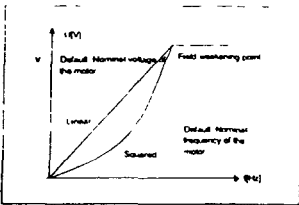

Figure 2.4-1 Linear and squared V/Hz curves
Linear The voltage of the motor changes linearly with the frequency in the constant flux area from 0 Hz to the field weakening point (par. 6.3) where a constant voltage (nominal value) is supplied to the motor. See figure 2.4-1.
**Squared** The voltage of the motor changes following a squared curve with the frequency in the area from 0 Hz to the field weakening point (par. 6.3) where the nominal maximum voltage is supplied to the motor. See figure 2.4.1.